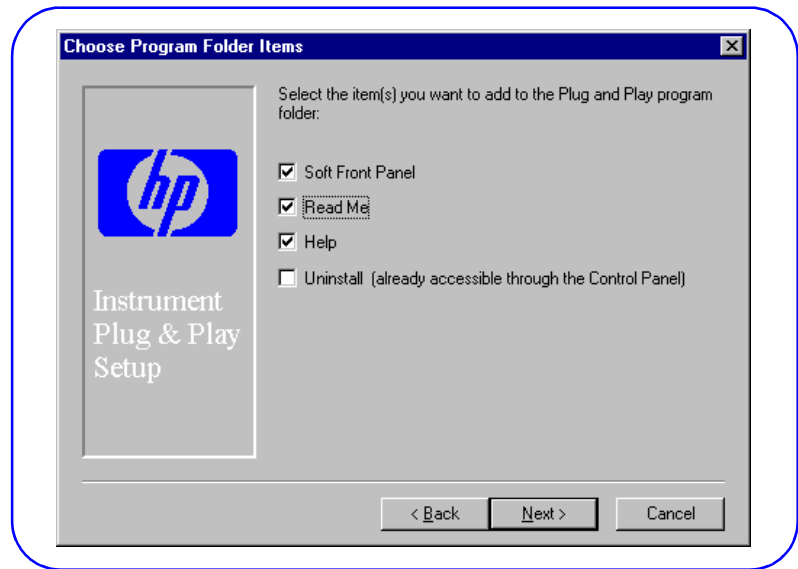

Figure 26. Choose Program Folder Items Screen
- 7** When the **Choose Program Folder Items** screen appears (see Figure 26), check the *Soft Front Panel*, *Read Me* and *Help* entries. Then, click *Next*. Follow the instructions to load the driver(s).